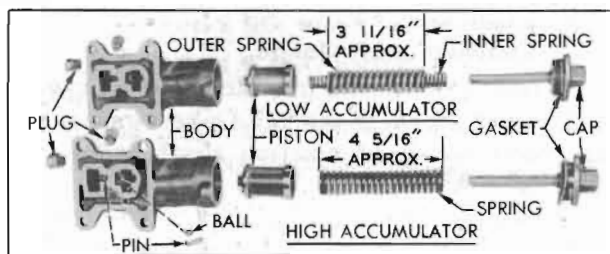

Figure 4-109—High and Low Accumulators—Disassembled
2. Remove the pipe plug, cap, gasket, spring and piston from accumulator body. Keep parts separated so that same parts will be reinstalled in same body. See figure 4-109.
9. Install proper springs in each body as shown in figure 4-109, then install caps with new gaskets. Caps will be tightened later—do not clamp accumulator in vise to tighten caps.
10. Install pipe plugs in both accumulator bodies and install check ball and retaining pin in the high accumulator body. See figure 4-109.